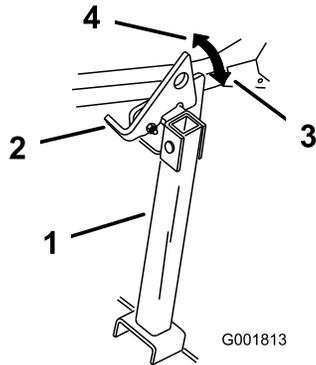

Figure 38
2. Raise the latch to the unlocked position (Figure 38).